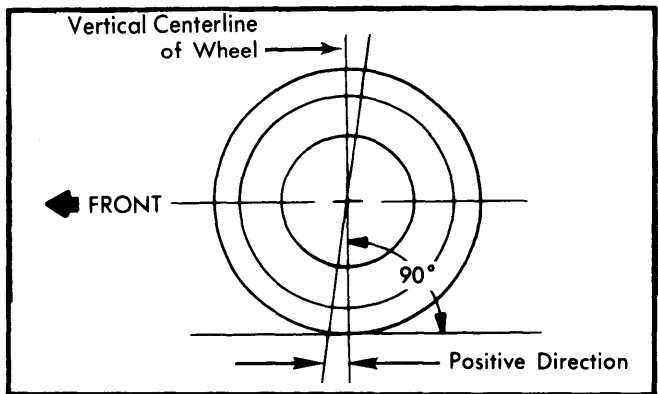

Fig. 4 Determining Caster Angle
1) Caster is the tilting of the front steering axis either forward or backward from vertical, as viewed from the side of the car. See Fig. 4.